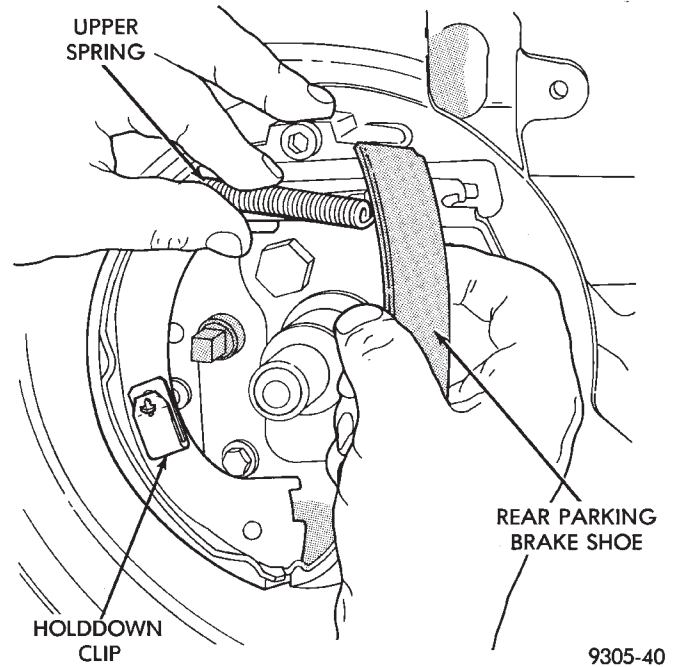

Fig. 153 Brake Shoe and Upper Spring
(10) Pull rear brake shoe assembly away from anchor. Then remove rear brake shoe and upper spring (Fig. 153).
(2) Install rear brake shoe and the upper brake shoe to shoe return spring (Fig. 153).
(3) Pull rear brake shoe over anchor block until properly located on adapter.